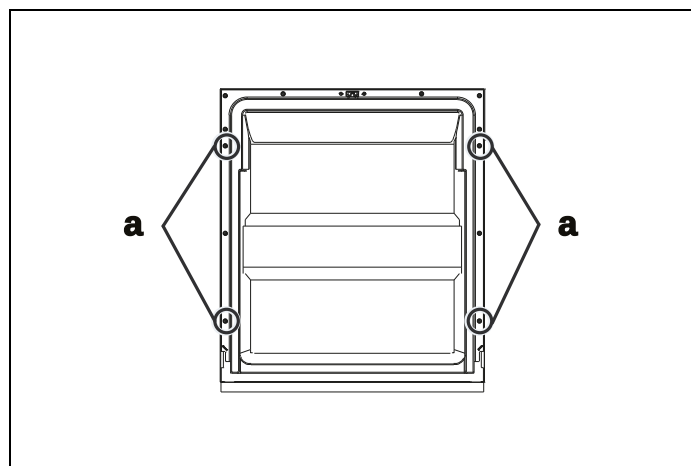

Fig. 17
- 3) After positioning the panel in place, fix the custom door to the outer door of the dishwasher with the screws and bolts provided (Fig. 17).